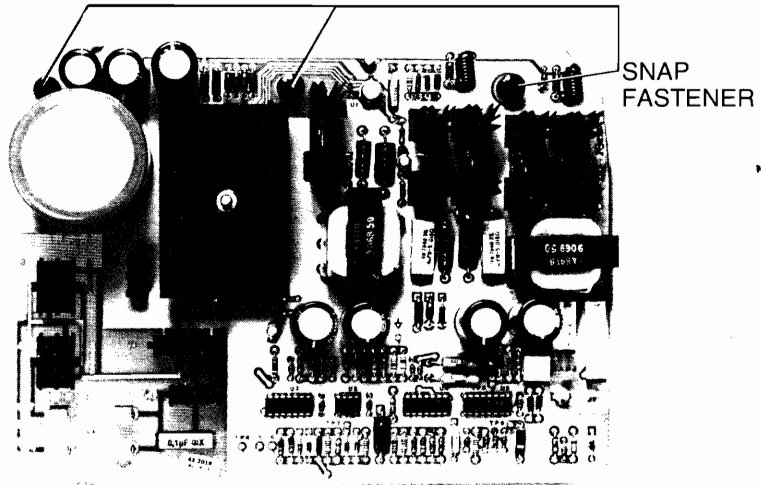

Figure 7-8. Power Supply PCA (Standard)
2. At the top of the Power Supply PCA, pull outwardly on each of the three snap fasteners securing the PCA to the mainframe (see figure 7-8).